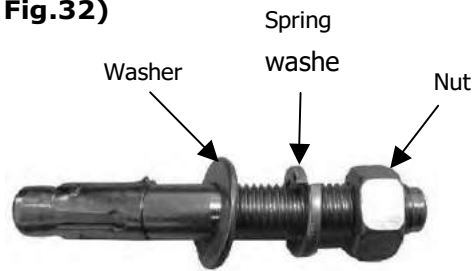

Fig.32
1. 1. Prepare the anchor bolts (See Fig.32)